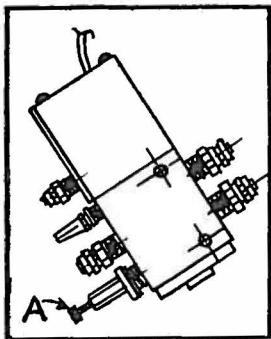

Fig. 26
2. Turn the flow control adjusting screw (A, Fig. 26) in three complete turns. While heeling back, observe the return action of the lower knife. If needed to overcome bobbin overspin, flow control valve adjusting screw can be turned in two more complete turns. If more than two additional turns are required, then the check for detecting the knife hitting the deflector plate will need to be made.